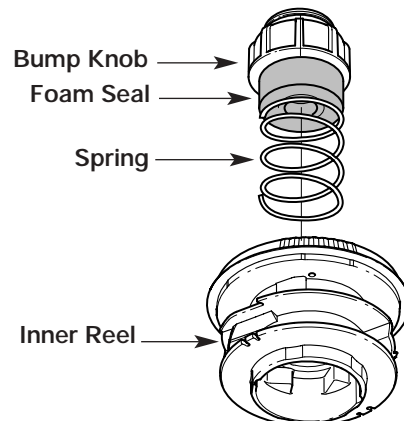

Fig. 21
1. Turn the bump knob counterclockwise and remove the bump knob, spring and foam seal (Fig. 21).
4. Hold the inner reel in place and install the bump knob, spring and foam seal. Press down and turn the bump knob clockwise. Grasp the ends and pull firmly to release the line from the holding slots in the inner reel (Fig. 21).
2. Pull out the bump knob, spring and foam seal (Fig. 21).
7. Place the bump knob, spring and foam seal into the inner reel (Fig. 21).